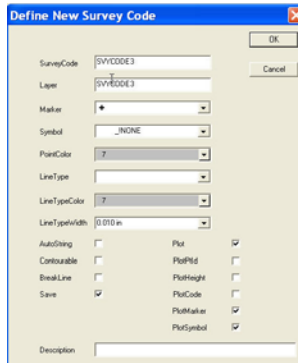

Figure 16-4. Create a New Survey Code
- **New** – press to create a new survey code. The *Define New Survey Code* dialog box appears (Figure 16-4).